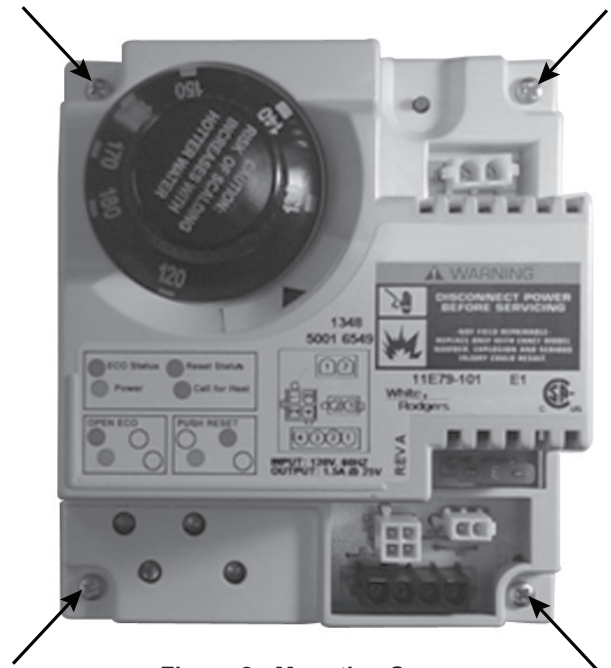

Figure 2 - Mounting Screws
6. Remove the four screws that mount the control to the mounting plate and remove it from the water heater. (see Fig 2).